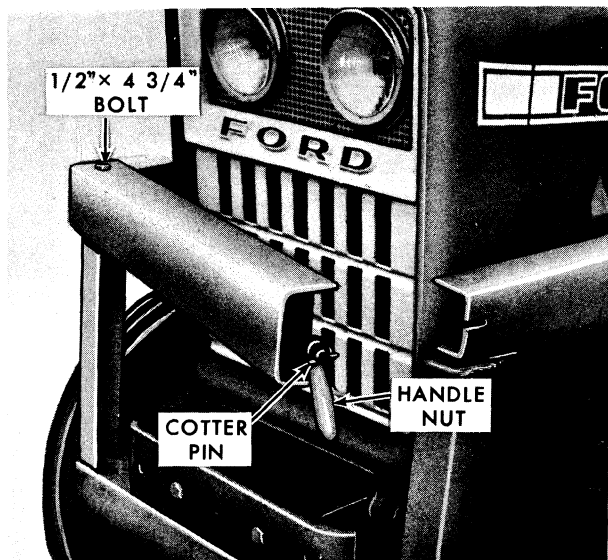

Figure 19
7. Install the front bumper spacer, Figure 19, to the right side frame with a 1/2" X 4-3/4" cap screw and locknut. At the left, insert the 7/16" X 3" carriage head bolt through the square hole in the bumper spacer, threading the handle nut on the bolt. Insert the cotter pin through the hole in the carriage head bolt to prohibit handle nut removal.